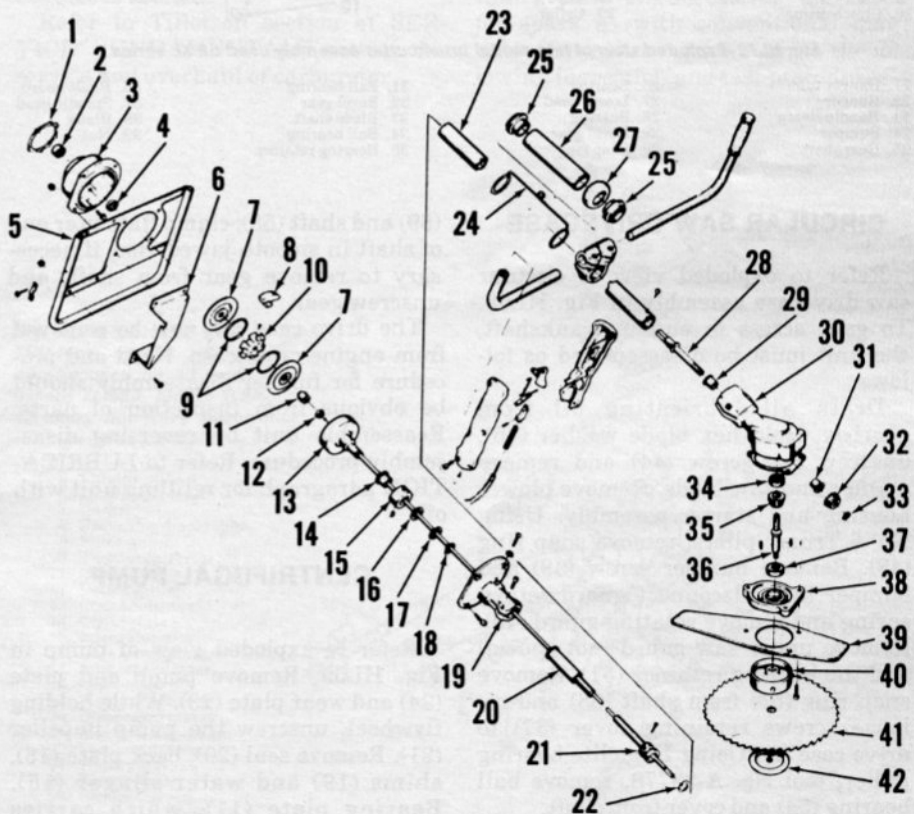

Fig. HL71—Exploded view of early type brushcutter assembly. Refer to Fig. HL72 for later brushcutter.
—Fig. HL71) is fully depressed, collar (36—Fig. HL62) on remote control cable moves away from throttle shaft lever allowing governor to control engine speed.
To gain access to crankshaft bearing housing (3—Fig. HL71 or HL72), or engine crankshaft, proceed as follows:
On early models, unbolt upper head (26—Fig. HL71) from bearing housing and remove brushcutter unit and frame (5). While holding engine flywheel, remove nut (12), spacer (11) and outer clutch cover; then unscrew clutch hub (10) from engine crankshaft. Remove inner clutch cover. Bearing housing can now be removed from engine crankcase. Note: Some early models have a flexible driveshaft instead of the rigid driveshaft shown in Fig. HL71. To remove nut (42) from blade shaft, insert a ¼ inch steel rod in hole in spindle head (40) to hold shaft from turning.